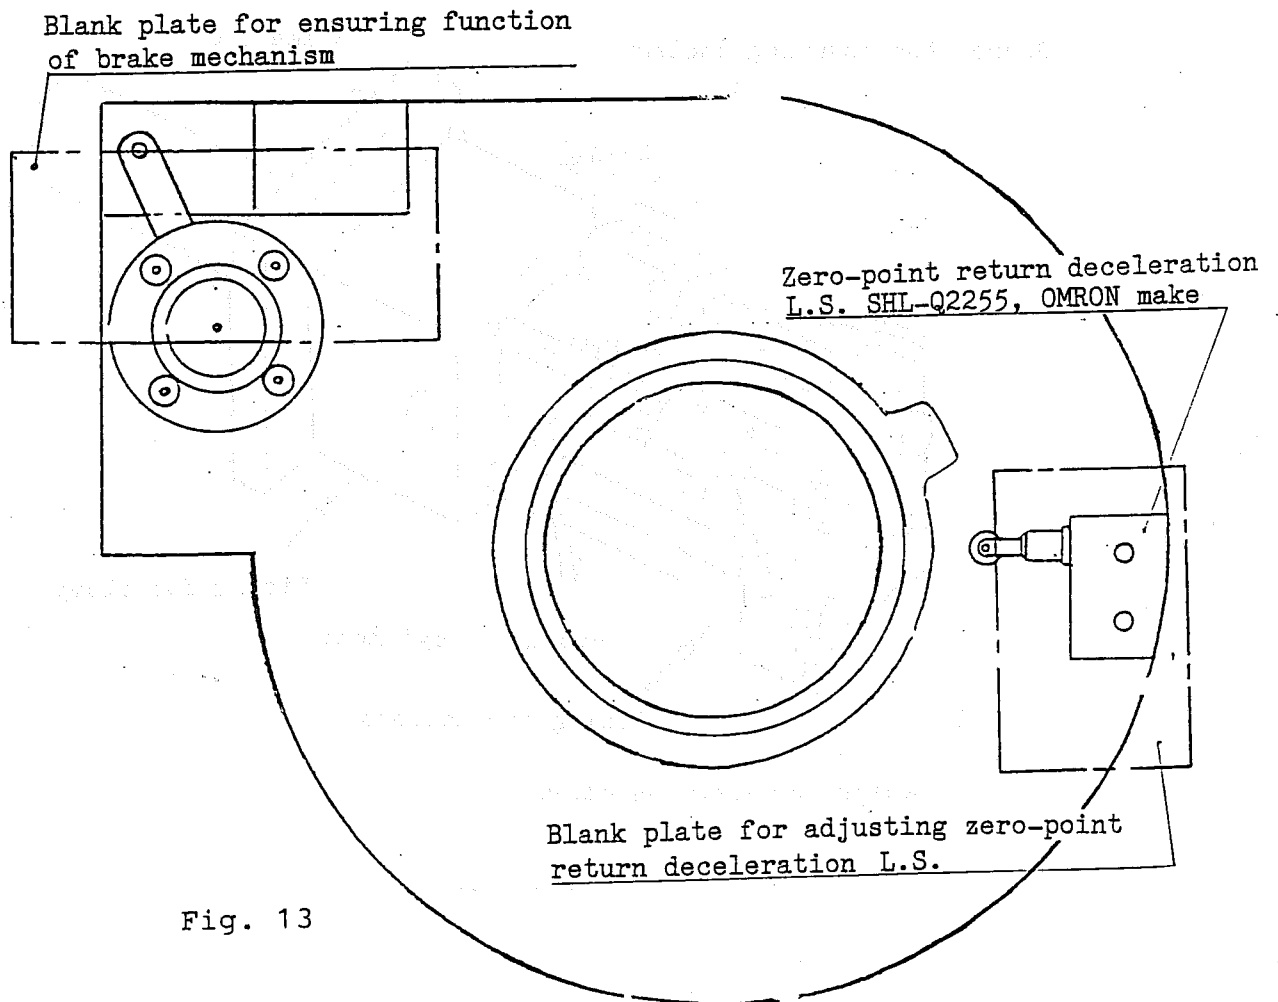

Fig. 13
- 3) Loosen the dog fastening bolts, and shift the dog to a proper position (See Fig. 13.).